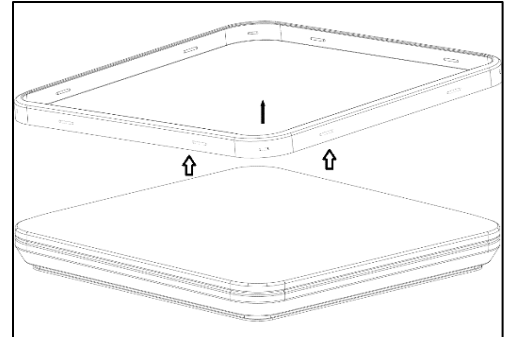

Figure 5
1. Remove the white decorative trim ring (3) from the diffuser gently by using two hands from one corner at the bottom edge and lift upward to release all the other corners. (See Figure 5)